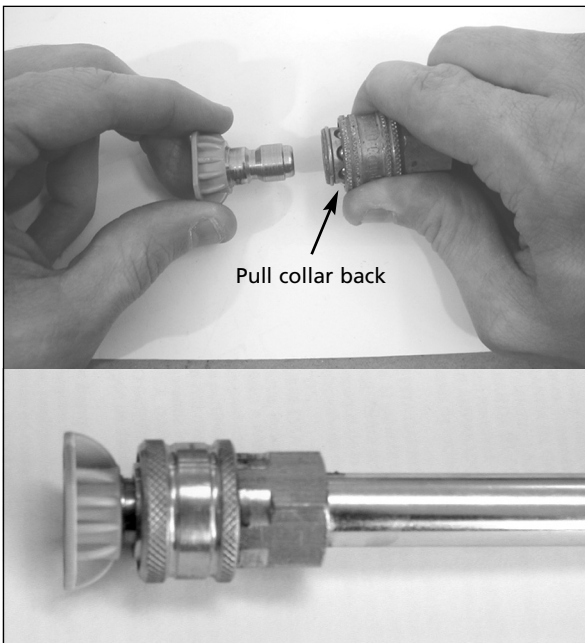

Figure 8 - Installing Quick Connect Tip
8. Install quick connect tip by pulling back on collar and pressing in tip. Release collar, make sure it completely returns to its forward position and tip is secure (see Figure 8).